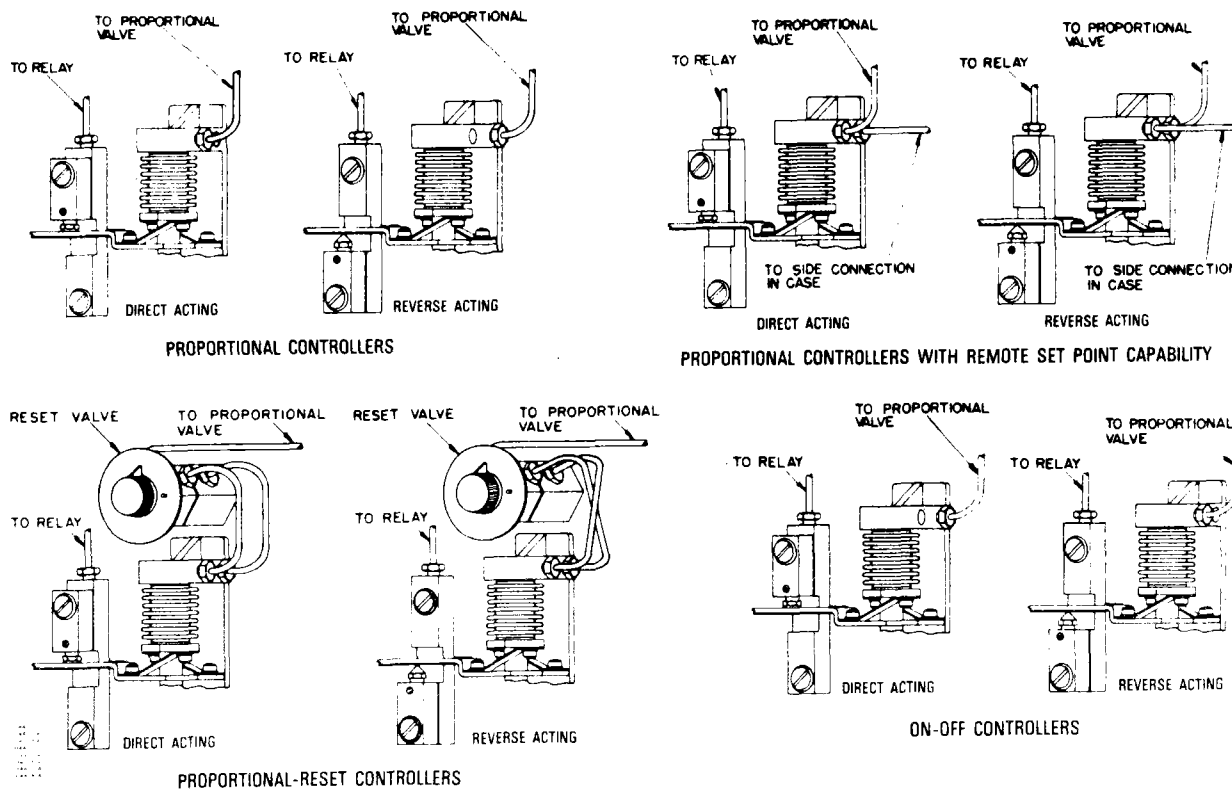

Figure 10. Tubing Connections for Direct- and Reverse-acting Controllers
3. Refer to figure 10 and locate the appropriate view for the controller in question. Note the new tubing and reversing block positions for action desired.
5. Re-connect the tubing to the opposite bellows frame connection from which the tubing was removed (refer to figure 10 to be sure the tubing is properly installed).
6. Unscrew reversing block screw and sealing screw (keys 72 and 71, figure 16), invert the assembly, and re-install it so that the nozzle is on the opposite side of the beam (key 60, figure 16) from which it was removed (refer to figure 10 to be sure the reversing block is properly installed). Re-install sealing screw in the hole from which the reversing block screw was removed.
4. Unscrew machine screws (key 50) from each end of the bellows frame (key 49).
6. With the stud that connects the two bellows in place in the spacer (key 52), screw the new bellows onto the stud. Install new gaskets (key 38) on each bellows. Compress the bellows and install the end of the bellows into the recesses in the bellows frame. With the beam parallel with the mounting plate (key 32), secure bellows frame with machine screws (key 50).
7. Replace sub-assembly in the case and secure with machine screws (key 28, figure 12). Re-connect all tubing. Refer to figure 10 for proper tubing connections.